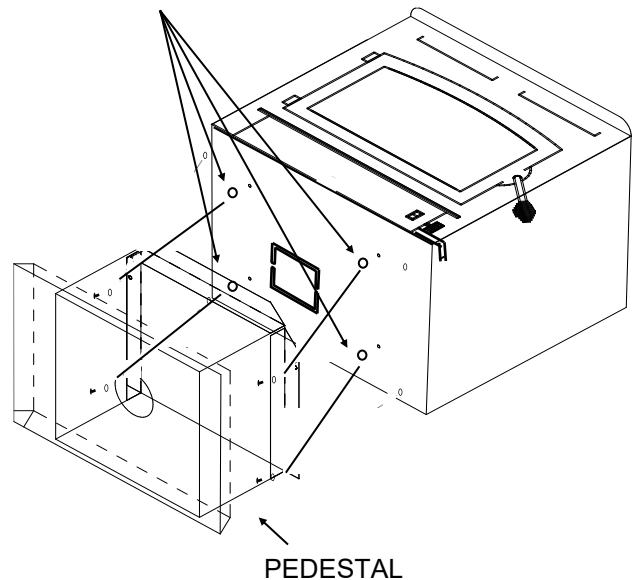

FIGURE 13
6. **(Pedestal Kit):** If pedestal kit is being used an outside air is required for residential freestanding installation (page 25 Out Side Air Installation). Open freestanding kit and obtain stand. Place stand against bottom of heater (angle side to heater). Center stand front to rear and also center stand left and right. Mark screw locations with pen or pencil on bottom of stove through outer holes of stand mounting angles. Set stand aside and drill four 7/32" holes in heater bottom. Then mount stand to bottom of heater with screws provided. (See Figure 13).
7. Obtain four (4) 3/16" self-tapping screws and secure stand to heater.